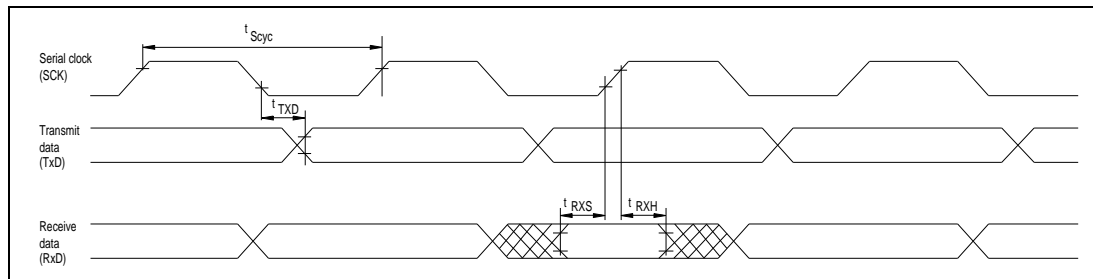

Figure 16-16. SCI Input/Output Timing (Synchronous Mode)
16.3.6 SCI Timing	Figures 16-16 to 16-17